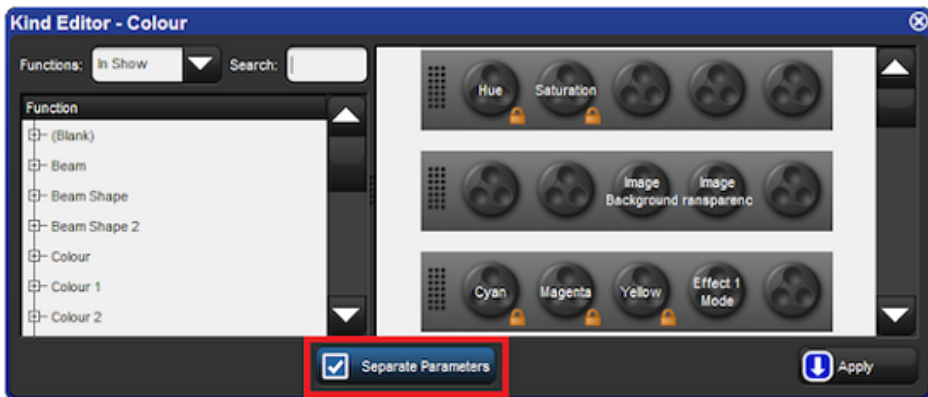

Figure 6.16. A Kind Editor for the Colour kind with separate parameters turned on.
2. Toggle separating parameters on and off by pressing the parameter type buttons; see *Figure 6.16, “A Kind Editor for the Colour kind with separate parameters turned on.”*